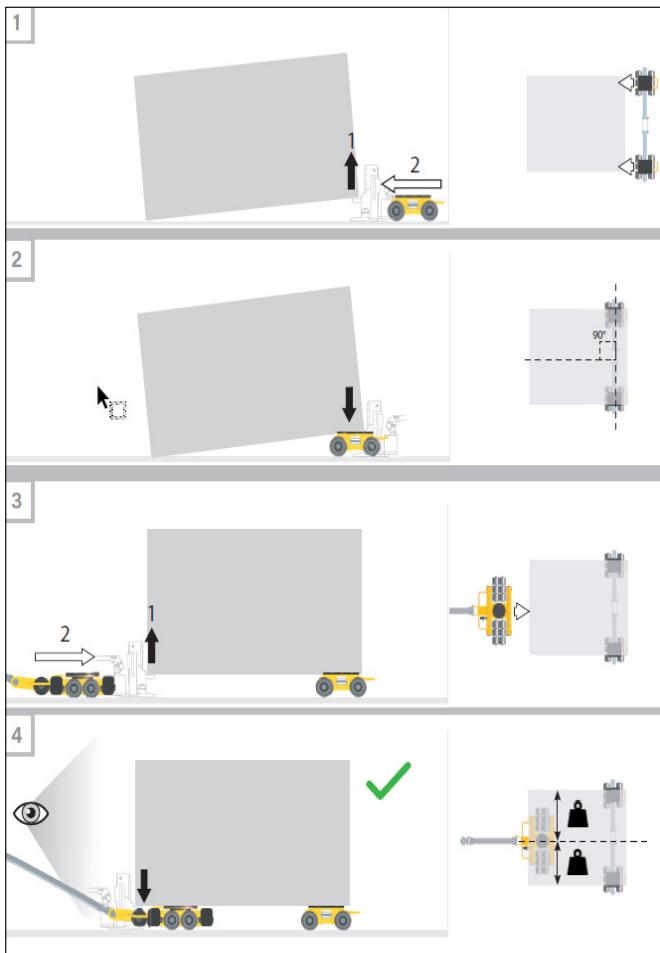

Figure 9: Lifting process
5.1 Placing load on skates (Figure 9)